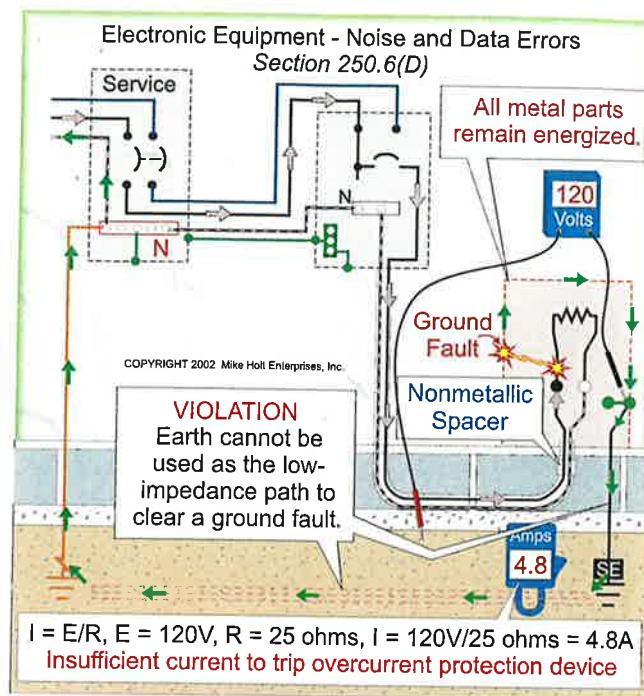

Figure 250-46
AUTHOR'S COMMENT: Some sensitive electronic equipment manufacturers require their equipment to be isolated from the equipment bonding conductor, yet they require the equipment to be grounded to an independent grounding system. This practice is very dangerous and violates the *NEC* because the earth will not provide the low-impedance path necessary to clear a ground fault [250.4(A)(5)]. See 250.54 for the proper application of a supplementary electrode and 250.96(D) and 250.146(D) for the requirements of isolated equipment grounding (bonding) conductors for sensitive electronic equipment. **Figure 250-46**